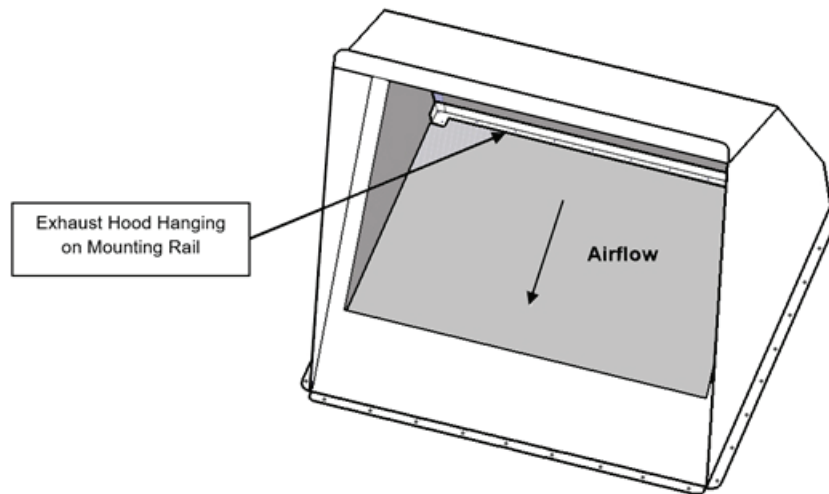

Figure 42b – Hood / Rail Assembly
4. Hang the hood on the mounting rail per Figure 42b.